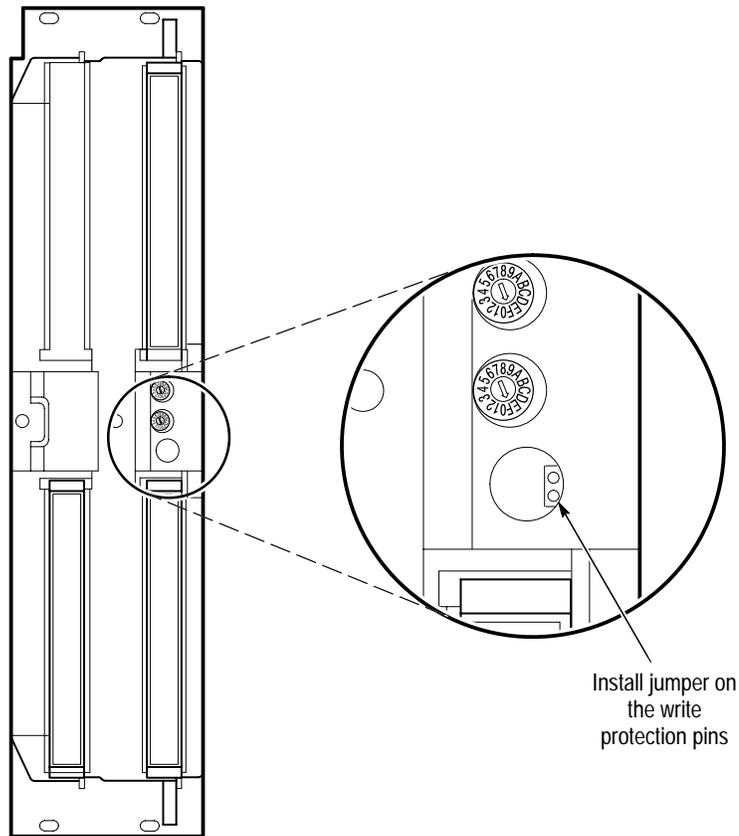

Figure 1: Write protection pins on rear panel
3. Before loading firmware you must install a jumper (provided in this kit) on the write protection pins. The jumper will switch the instrument to the unprotected (write-enable position). The protection pins are located in the rear panel. See Figure 1.